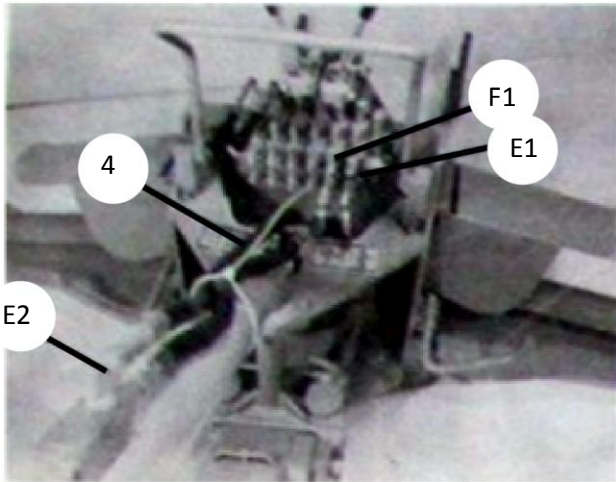
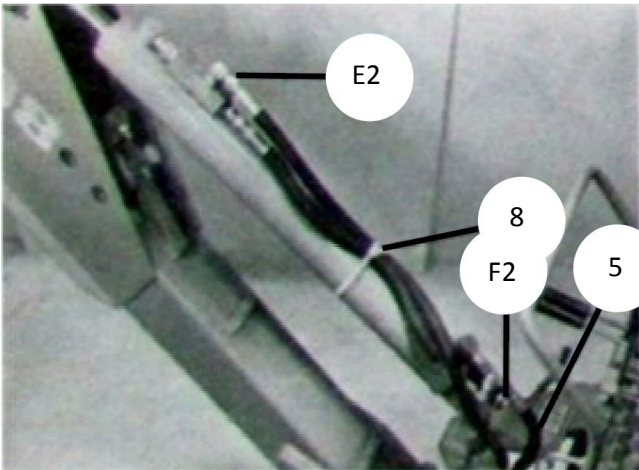

Fig. 5
Fig. 6
- (6) Connect end of "boom up" hose (Item 4) equipped with short 90° fitting to lower port (Point E1) on second valve section from right as shown in Fig. 5. Route hose through hole in top plate of mainframe (located just behind swing shaft) and connect to fitting located on top of load check (Point E2) mounted in the top port of main boom cylinder as shown in Fig. 6. Using a plastic hose tie (Item 8) in box parts) fasten the hose to the boom cylinder approximately 1" to 2" behind the lower hydraulic port.
(7) Connect end of “boom down” hose (item 5) equipped with long 90° fitting to upper port (Point F1) on second valve section from right as shown in Fig. 5. Route hose through hole in top plate of mainframe and connect to the open end of Tee Adaptor on lower main boom cylinder port (Point F2) as shown in Fig. 6.